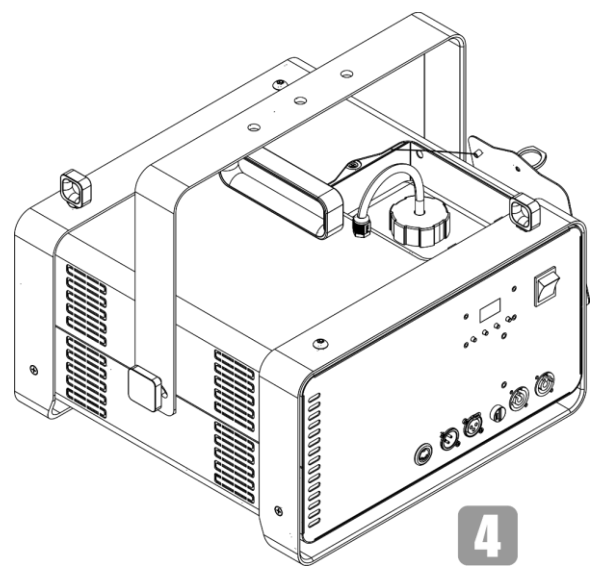

Fig. 12
- 04) Place the service lid next to the device, as shown in Fig. 12.